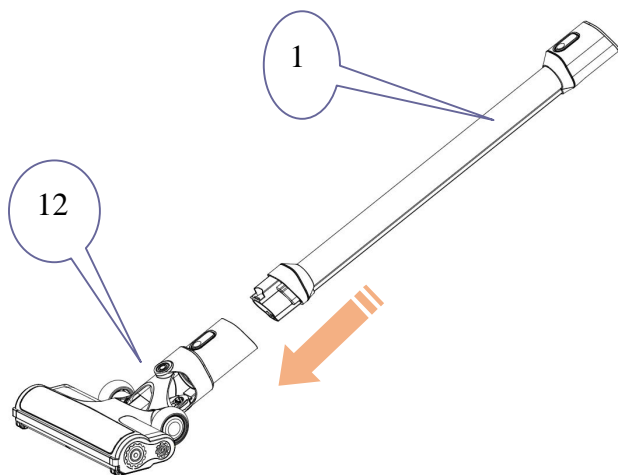
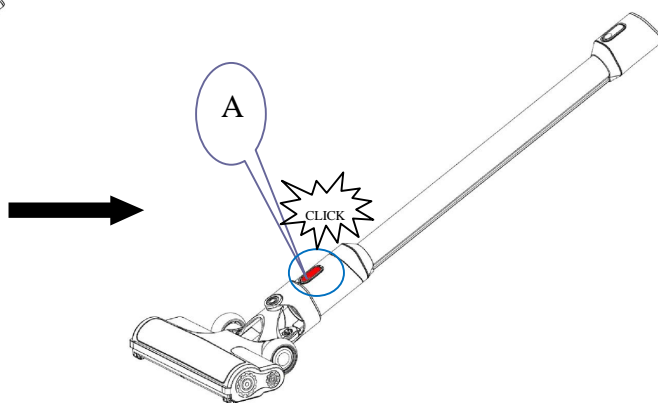

Figure 3a
Figure 3b
Insert the end of the aluminum tube (No.1) into the floor brush connector (No.12) as shown in figure 3a and lock it into place. When insert correctly, unit release key (A) will click in properly - see figure 3b.